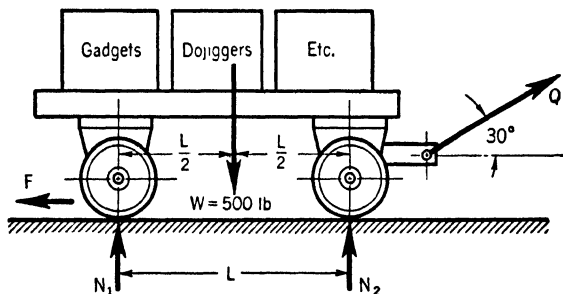

FIG. 395. ACCELERATION OF A TRUCK
We have previously learned something about finding the resultant, and now we see that the resultant of all forces acting on a body is a key to the computation of the acceleration of the body. Reconsider the industrial truck of Fig. 385, redrawn in Fig. 395 where *all* forces acting are represented. Let the pull be $Q = 100$ lb. at 30° with the horizontal. The force $F = 50$ lb. represents the total frictional resistance, a force parallel to and opposite to the
1. In Fig. 395, suppose $Q = 80$ lb. and $F = 50$ lb. Determine the acceleration and the speed attained after 3 sec.